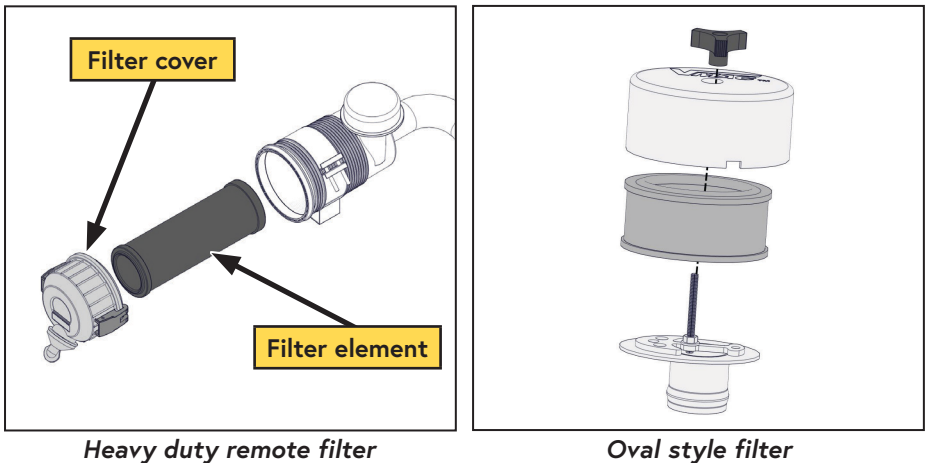

Figure 18 — Install air filter element
- ☐ Replace the cover and secure it with the cover nut. Do not over-tighten the nut (Figure 18).